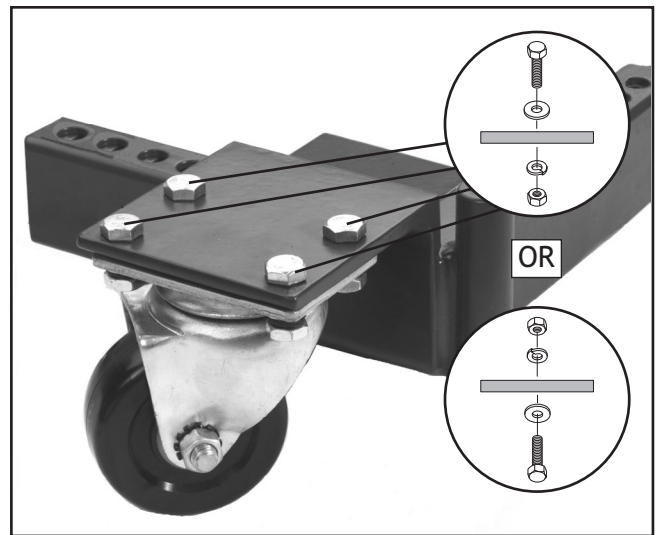

Figure 2. Swivel caster on threaded post corner.
4. Mount the two fixed casters on the corner brackets which have the eight hole pattern, making sure to orient the casters according to the configuration you selected. Use four (4) bolts through the top of outrigger with the caster mounting plate underneath. Secure with a washer, lock washer and nut. Similarly, mount the two swivel casters on the other two corner brackets. The swivel casters should always be mounted on the corners which have the threaded post. **See Figure 2.** Tighten each caster mounting.